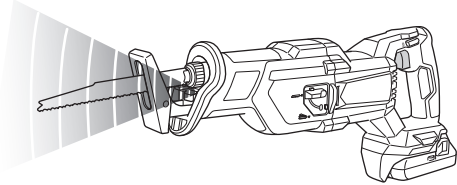

Fig. 26
5. LED light warning signals (Fig. 26)